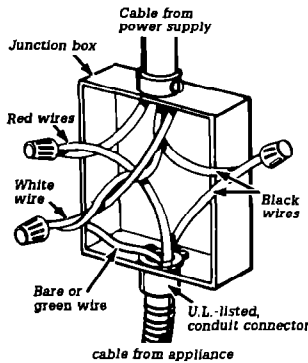

Figure 1
2. Connect the two black wires. Then connect the two red wires. (See Figure 1.).